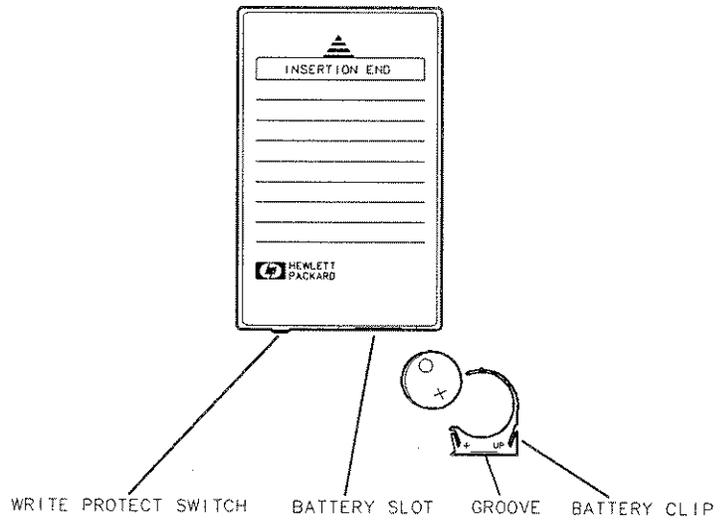

Figure 4-5. Memory Card Battery Replacement
2. Locate the groove along the edge of the battery clip. See Figure 4-5.
5. Insert the battery clip into the memory card, holding the clip as oriented in Figure 4-5 (face the open edge of the clip toward the write-protect switch on the memory card). The red BAT LED should turn off.